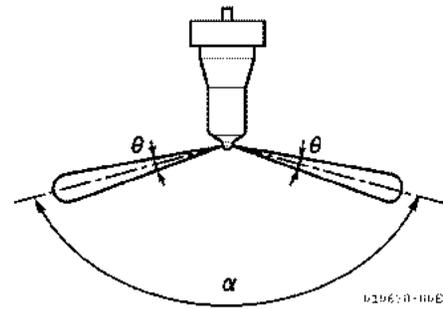

Figure 6-84
6. Pump the operating lever more rapidly to repeatedly pop the injector and observe the spray pattern. The pattern should be a very fine uniform spray (Figure 6-84). If dripping or an uneven pattern is seen (Figure 6-85), service or replace the injector.